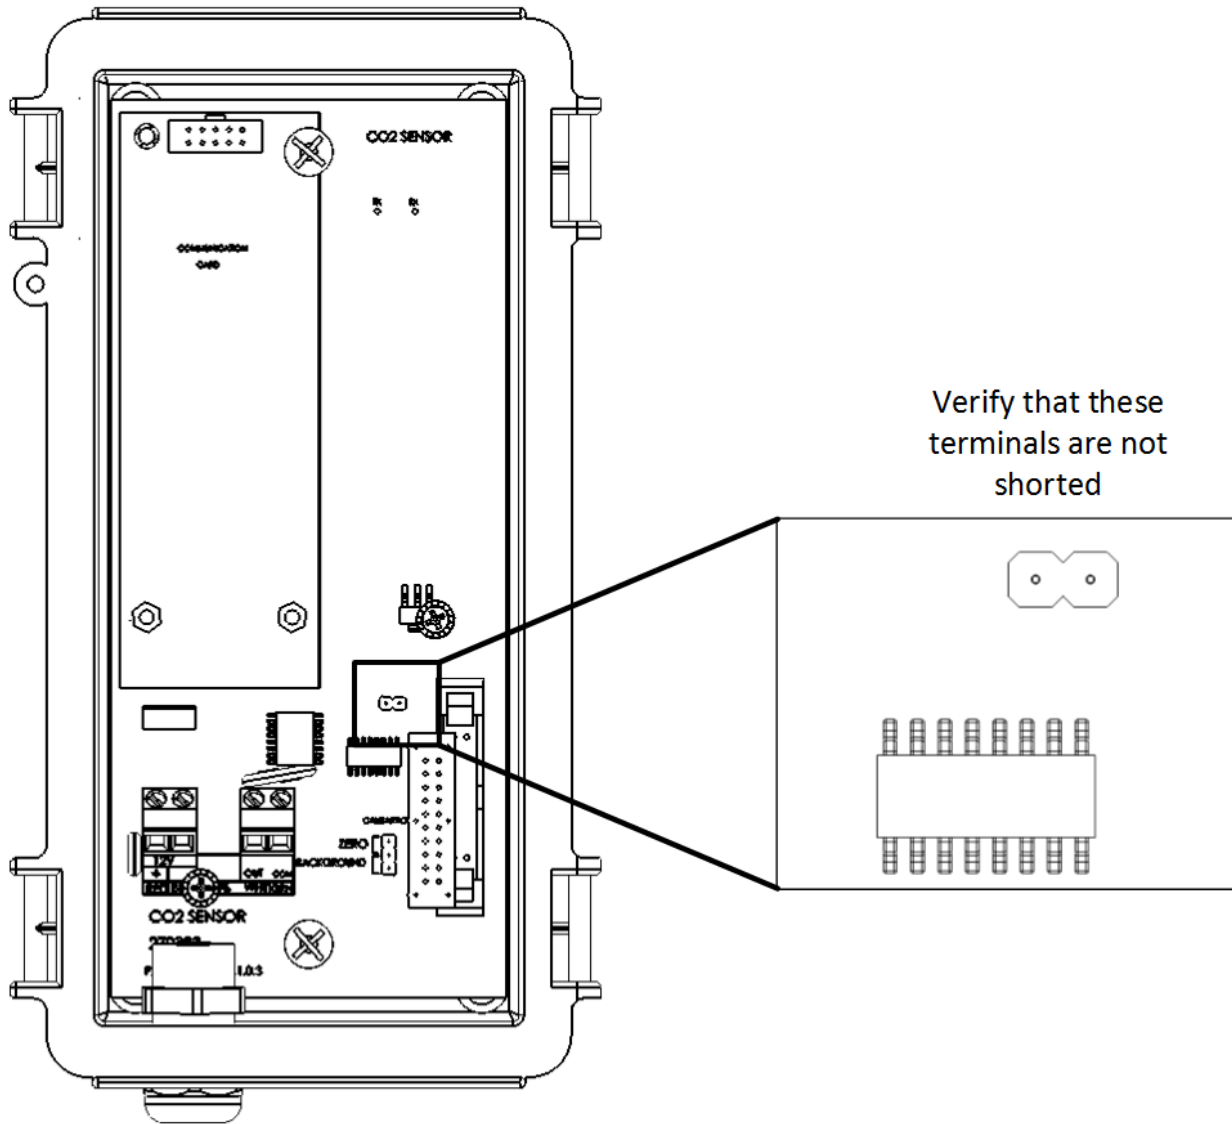

Figure 2: J2 Jumper
**NOTE** Verify that J2 is not shorted (refer to Figure 2).